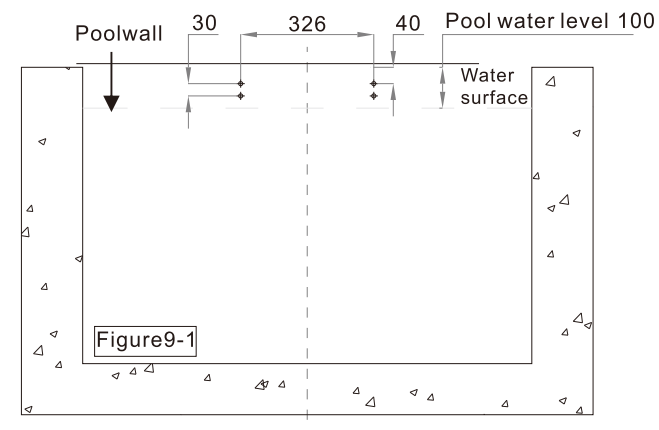

Figure9-1
- As shown in Figure 9-1, the distance between the upper right corner hole and the pool surface is 40 when the pool water level is 100.